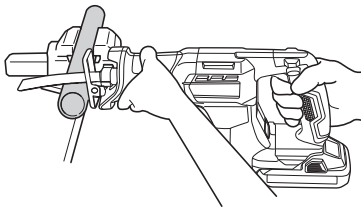

Fig. 23
- (1) Fasten a workpiece firmly before operation. (Fig. 23)